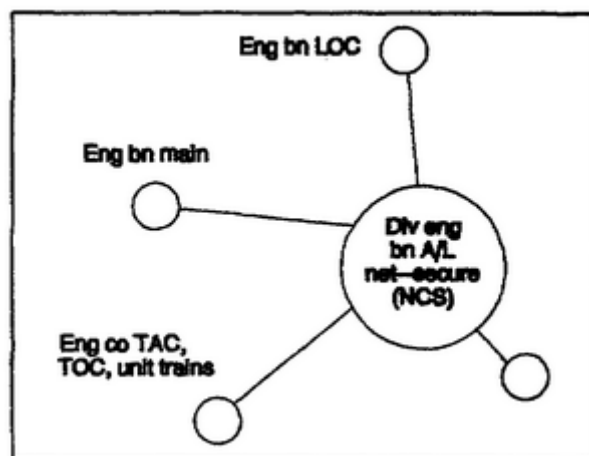

Figure 3-6. Division engineer battalion A/L net-secure.
- (b) Division engineer battalion administrative/logistics (A/L) net-secure (three each division) (Figure 3-6, page 3-10).